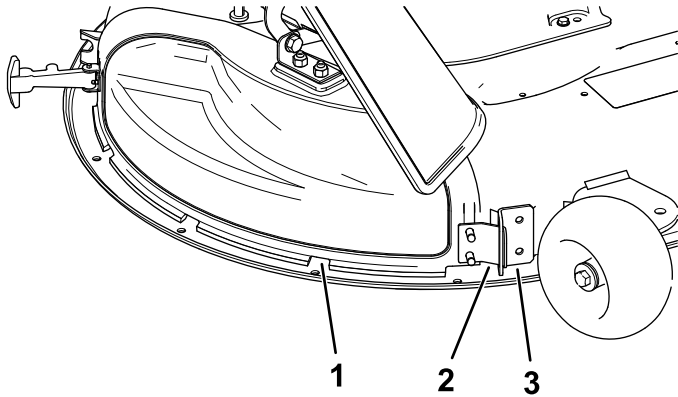

Figure 13
- 5. Angle the metal tab on the discharge cover out of the slot in the bracket welded to the mower deck (Figure 13).